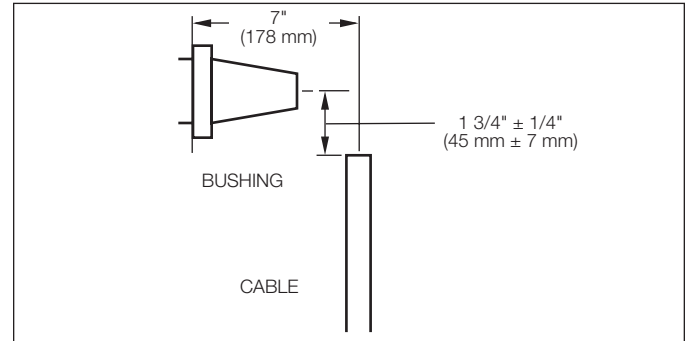

Figure 2.
- Cut cable 1 3/4" (45 mm) from centerline of bushing. (Refer to Figure 2.)